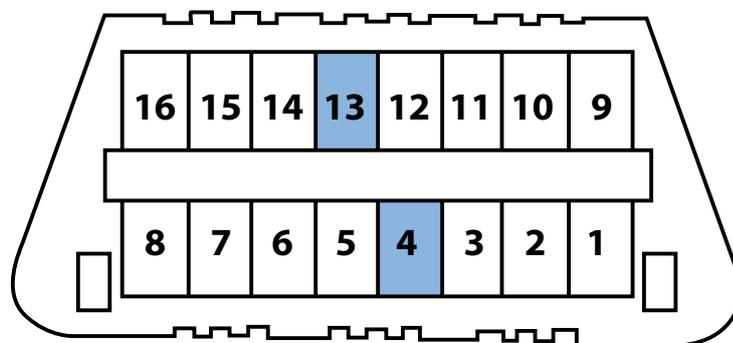

Fig. 2.
2. Use a jumper wire to connect terminals 4 and 13 of the 16pin OBD diagnostic socket as shown in fig. 2.
2. Re-connect the jumper wire as shown previously in figure 2.